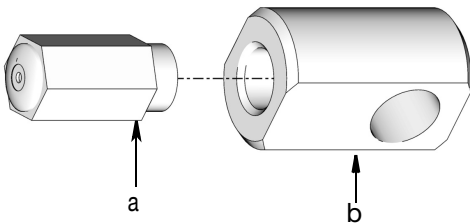

FIG. 22
- a. Apply thread sealant (user supplied) to threads of pressure relief valve (a) (FIG. 22).
- b. Install pressure relief valve (a) into banjo fitting (b). Wrench tighten (FIG. 22).